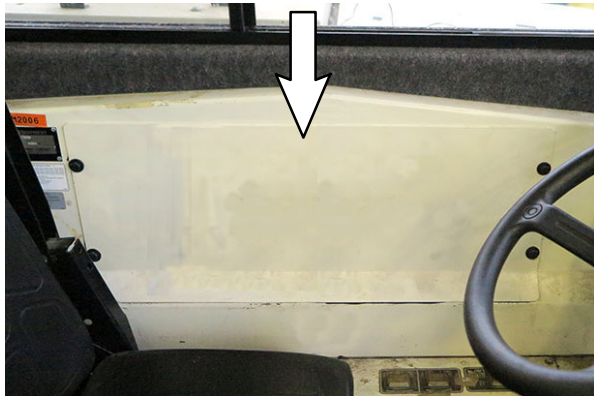

FIG. 3
15. Remove the access panel from the operator compartment. Set the access panel and all hardware aside. (Fig. 3)